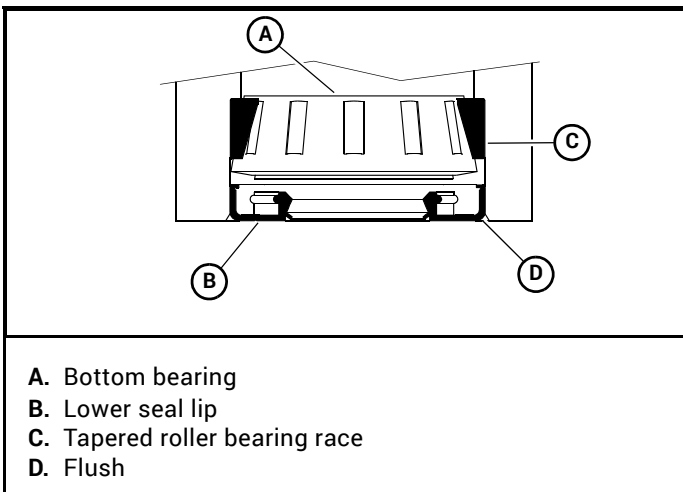

Figure 4-26
9. Install the bottom bearing and lower seal. Make sure that the lower seal lip is facing out and driven flush with the caster pocket. Figure 4-26
11. Install the caster fork assembly, taking care not to damage the lower seal lip. Figure 4-26